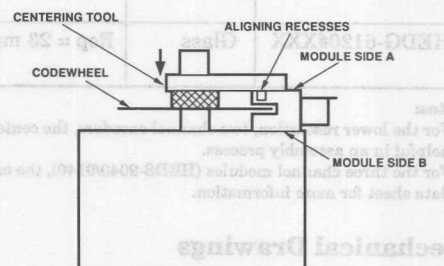

Figure 3. Alignment Tool is Placed over Shaft and onto Codewheel Hub. Alignment Tool Pins Mate with Aligning Recesses on Module.
4. Slide the HEDS-8905 or HEDS-8906 centering tool over codewheel hub and onto module as shown in Figure 3. The pins of the alignment tool should fit snugly inside the alignment recesses of the module.